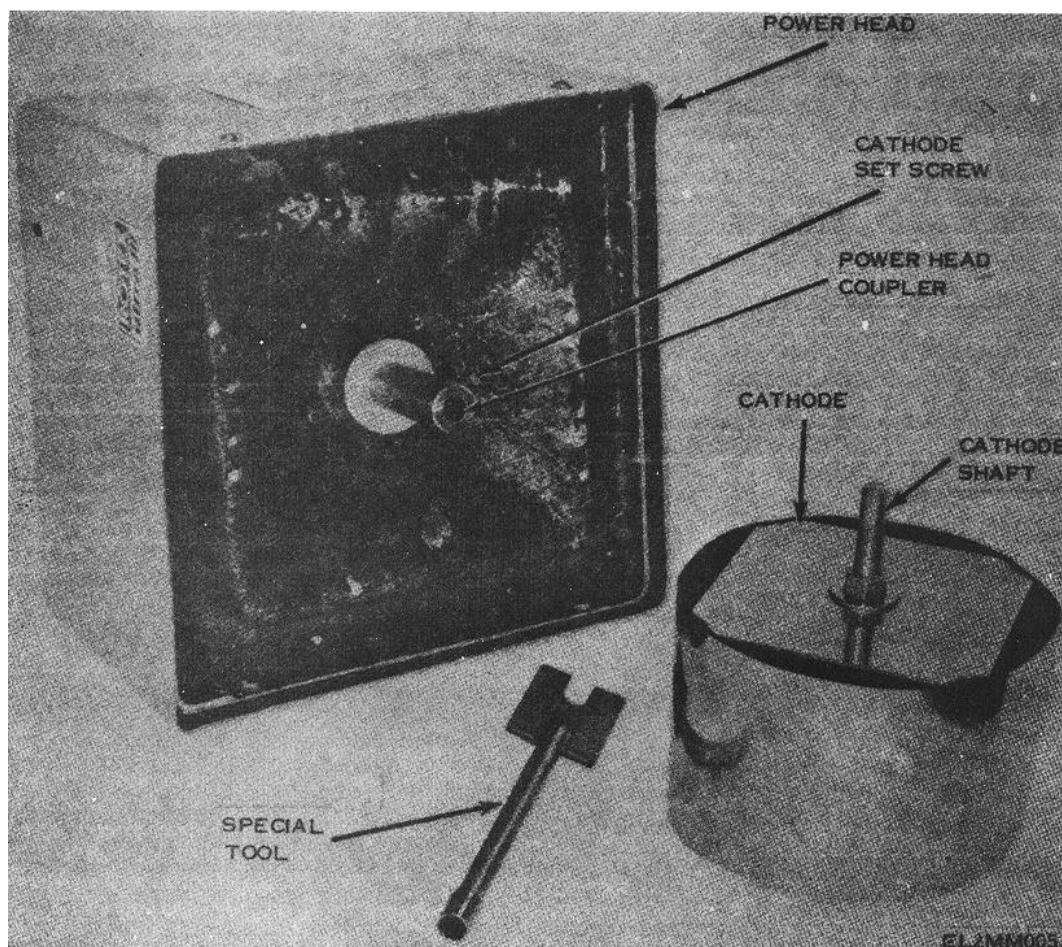

Figure 2-18. Silver recovery unit, power cathode, and special tool.
**When the server recovery unit is first placed into operation, or after the cathode (fig. 2-18) is changed,**
f. With the special tool (fig. 2-18) provided, loosen the setscrew and pry the cathode away from the coupling; lift off the power head and set it aside.